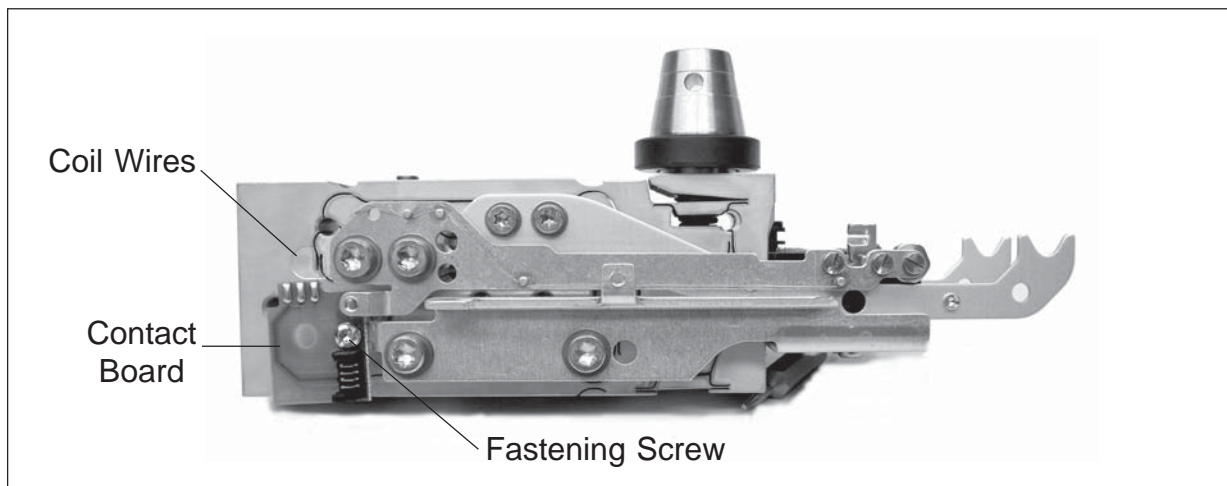

Figure 3-42. Contact Board Location.
1. Hold Contact Board to ensure the fine coil wires cannot tear off, then remove screw as shown in Figure 3-42.